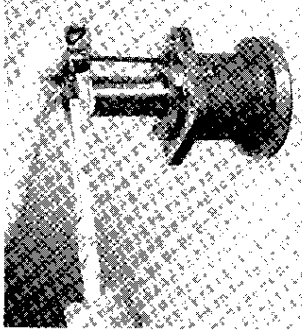

Fig. 7
14. Take unit out of vice and turn it over. Remove six cap screws (1) from seal carrier (3). (Fig. 7)
15. Remove seal carrier (3) from housing (12).
22. Lubricate output shaft (7) and shaft seal (2). Place seal carrier (3) with backup ring, quad ring and 'O' ring installed, over output shaft (7) and carefully slide seal carrier into position. (Fig. 8) Line up holes, insert six socket grade 8 head cap screws (1) in holes and tighten to 20-25 ft. lbs. torque. (Fig. 7) Tighten pipe plugs (13 & 23) into holes in housing (12) and motor adapter (22) using a thread sealing compound.